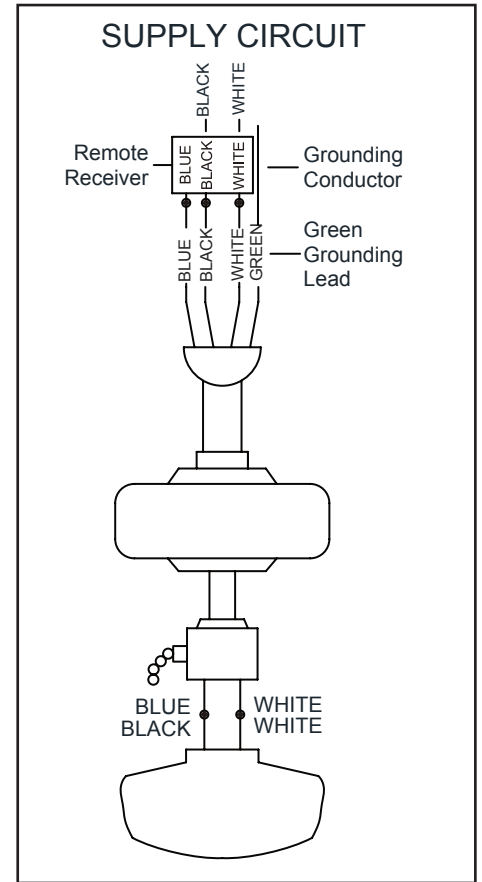

Figure 11
Follow the steps below to connect the fan to your household wiring. Use the wire connecting nuts supplied with your fan and connect with remote control. Secure the connectors with electrical tape. Make sure there are no loose strands or connections. (Figure 11)
1. Connect the ground conductor of the 120v supply (this may be a bare wire or a wire with green colored insulation) to the green ground lead(s) of the fan (Figure 11).
2. Connect the fan motor white wire to the receiver white wire using a wire nut (Figure 11).
3. Connect the fan motor black wire to the receiver black wire using a wire nut (Figure 11).
4. Connect the fan motor blue wire to the receiver blue wire using a wire nut (Figure 11).
5. Connect the receiver black wire to the supply black (hot) wire using a wire nut (Figure 11).
6. Connect the receiver white wire to the supply white (neutral) wire using a wire nut (Figure 11).